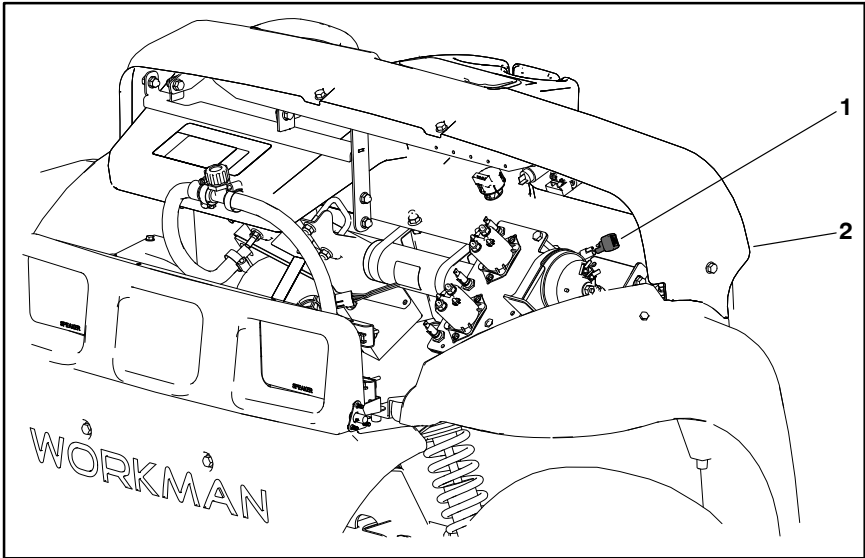
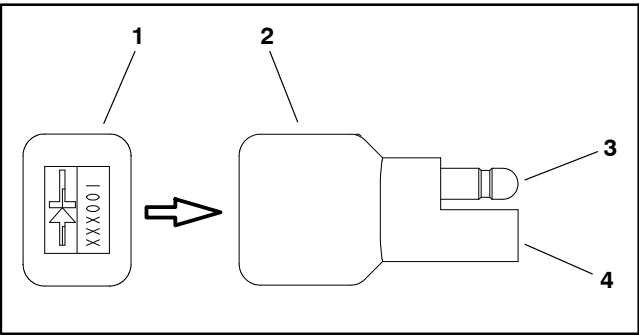

Figure 34
Figure 35
The electrical system of the MD Workman (Model 07236) includes a diode. The maximum current allowed through a diode is 6 A. The diode assembly can be identified by a black color, diode symbol, and Toro Part Number on the end of the diode assembly body (Figure 35). The diode plugs into the heater kit wire harness near the dash panel (Figure 34); refer to the Heater Kit Wire Harness Drawing/Diagram in Chapter 7–Electrical Drawings .
4. The diode (Figure 35) can be tested by using a digital multimeter (diode test or ohms setting) and the Diode Test Table shown below: